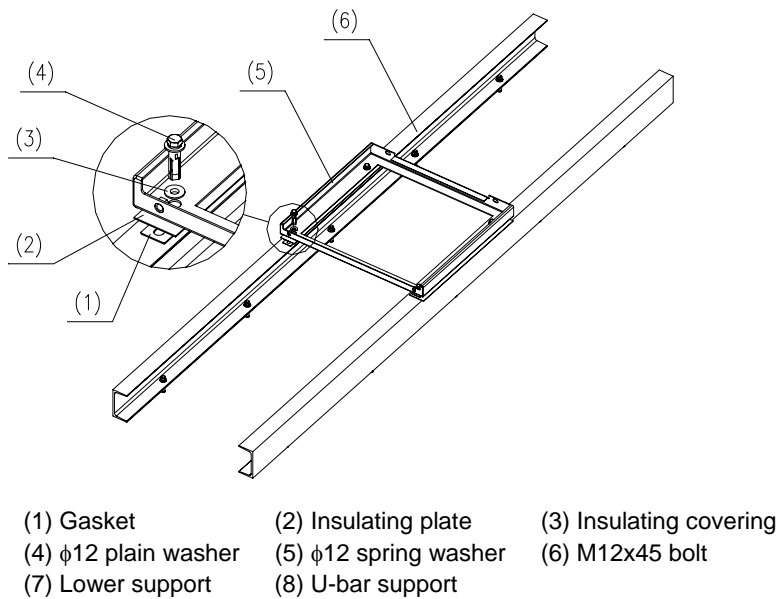

Figure 2-19 Installing the lower support
- 6) Put the spring washer, plain washer, and insulating covering on the M12x45 bolt one by one. See Figure 2-19.